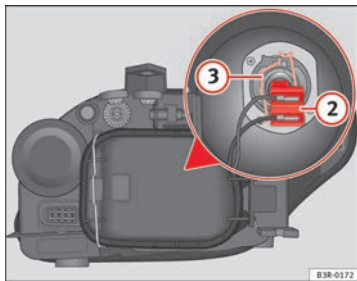

Fig. 212 Dipped beam headlights
- Pull the connector ⇒ Fig. 212 ② from the bulb.
- Unclip the retainer spring ⇒ Fig. 212 ③ pressing inwards to the right.